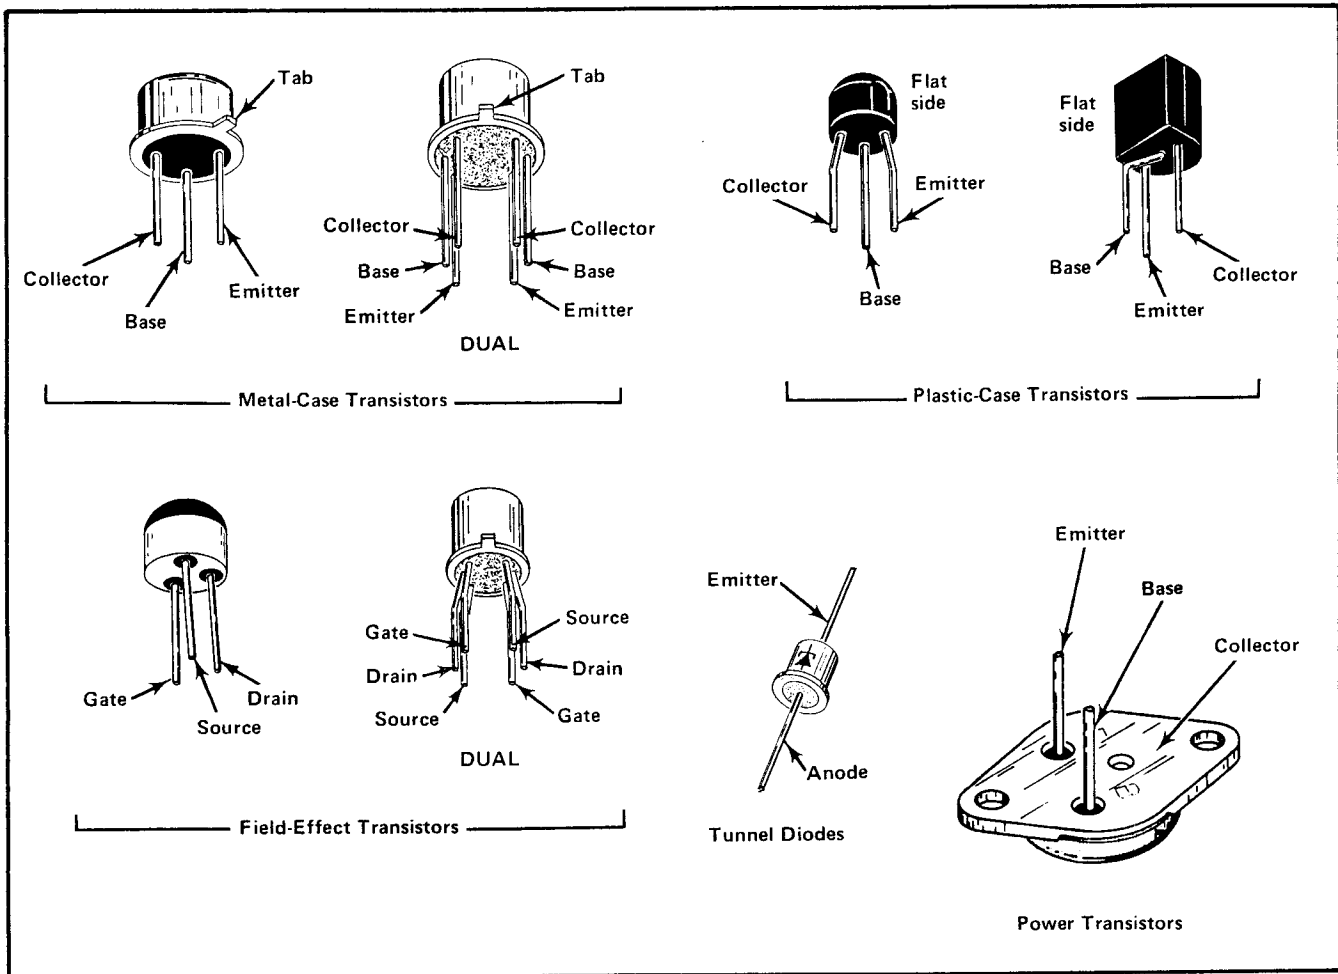

Fig. 4-2. Electrode configuration for semiconductors in this instrument.
**Semiconductor Lead Configuration.** Fig. 4-2 shows the lead configurations of the semiconductors used in this instrument. This view is as seen from the bottom of the device.